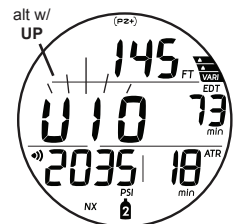

Fig. 109 - VGM MAIN (after Audible)
**VGM Dive Main**, information includes (Fig. 109) -